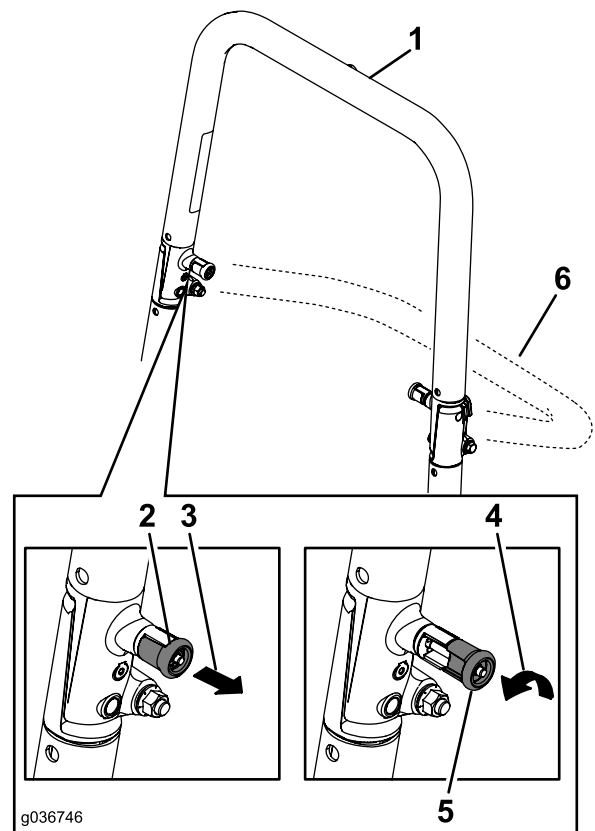

Figure 10
2. Pull both knobs out and rotate them 90 degrees so that they are not engaged (Figure 10).
3. Lower the roll bar to the down position (Figure 10).
1. Raise the roll bar to the operating position and rotate the knobs until they move partially into the grooves (Figure 10).
2. Raise the roll bar to the full upright position while pushing on the upper roll bar so that the pins snap into position when the holes align with the pins (Figure 10).